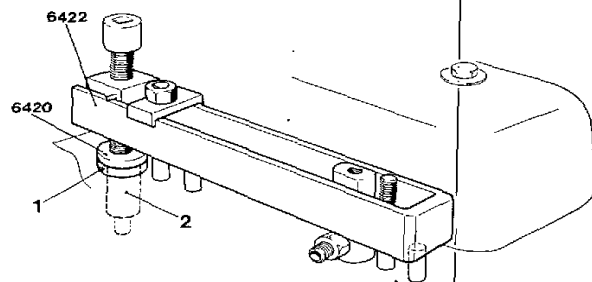

Fig. 154. Fitting the copper sleeve and steel ring (70 series)
12. **70 series:** Assemble the press tool 6422 as shown in fig. 154. The tool sliding attachment is secured to the stud of the copper sleeve in question, at the same time as the tool frame is supported against the support pin of the adjacent injector. Alternatively, the tool can be screwed onto two studs depending on which cylinder work is to be carried out on.